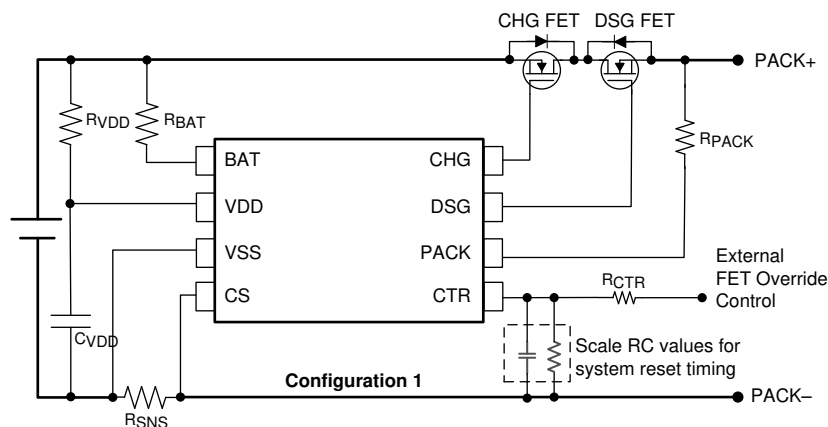

Figure 8-6. BQ298xx Reference Schematic Configuration 1
- See Figure 8-6 for the schematic design.